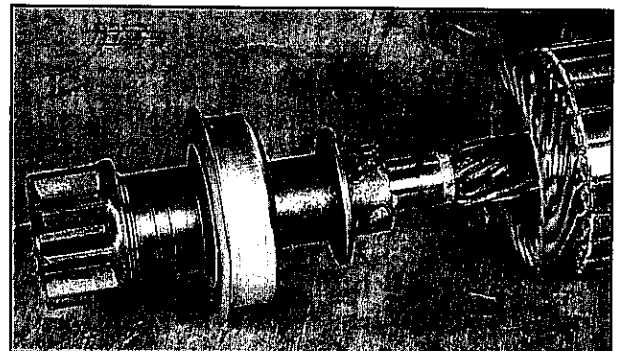

Fig. 35
8. Remove pinion gear and clutch assembly, **Fig. 35**.